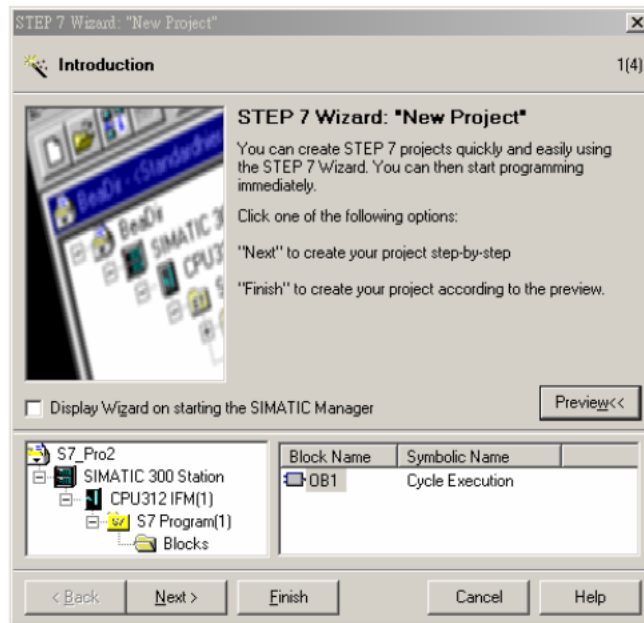

Figure 10-4
3. Click “Next” in the wizard, as Figure 10-4.